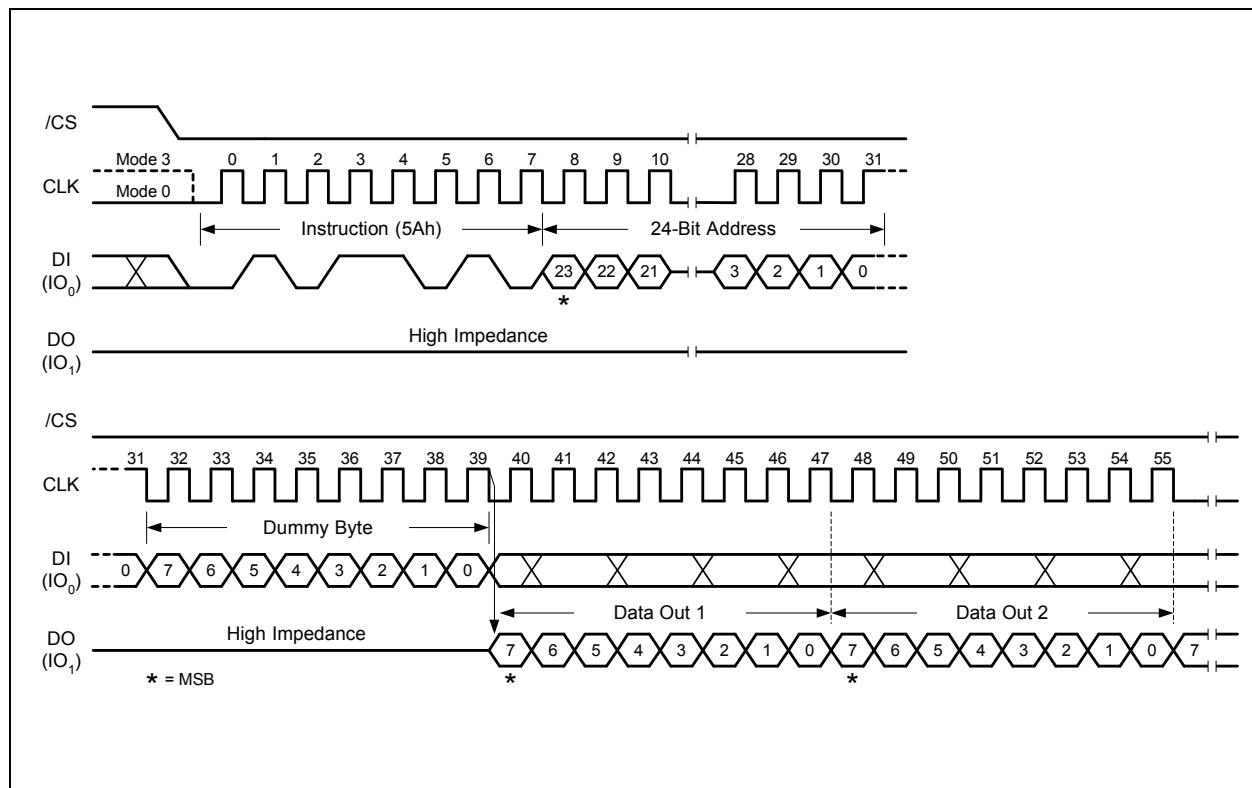

Figure 34. Read SDFP Register Instruction Sequence Diagram
The Read SDFP instruction is initiated by driving the /CS pin low and shifting the instruction code “5Ah” followed by a 24-bit address (A23-A0)(1) into the DI pin. Eight “dummy” clocks are also required before the SDFP register contents are shifted out on the falling edge of the 40th CLK with most significant bit (MSB) first as shown in Figure 34. For SDFP register values and descriptions, refer to the following SDFP Definition table.